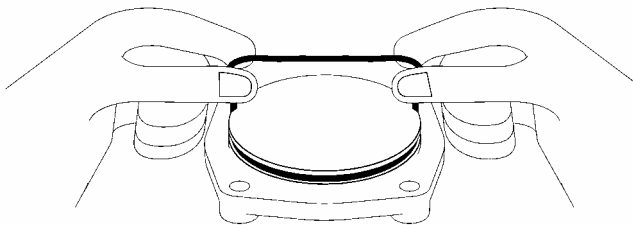

Figure 15 – Head O-ring Installation
22. Install a new head O-ring (72) in the groove on the dowel of the head. Lay the O-ring flat and start in on one side of the groove, stretching ahead with the fingers, as shown in Figure 15.